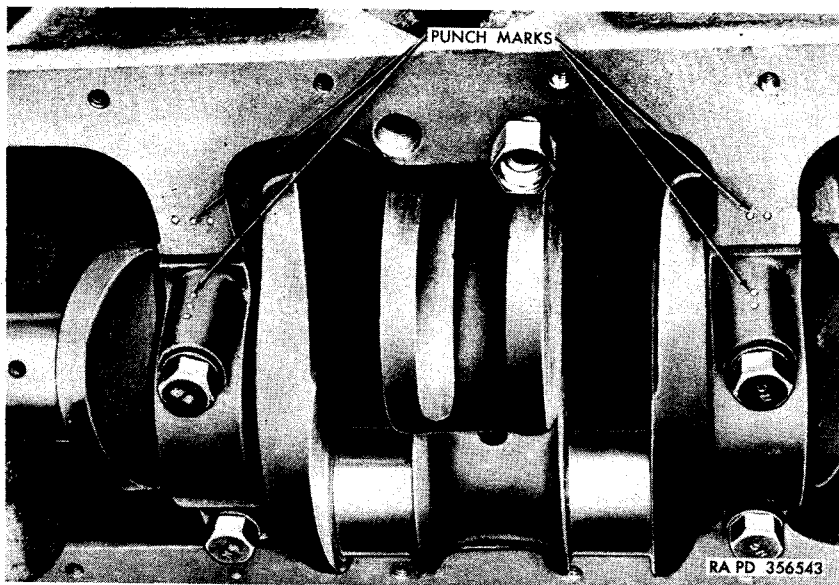

Figure 50. Punch marks on cylinder block and crankshaft bearing caps.
a. *Remove Crankshaft.* Before removing the crankshaft, be sure to prick punch the two intermediate crankshaft bearing caps and the cylinder block (fig. 50) so that the caps can be installed in their original position. Remove crankshaft (par. 367). If replacement of the